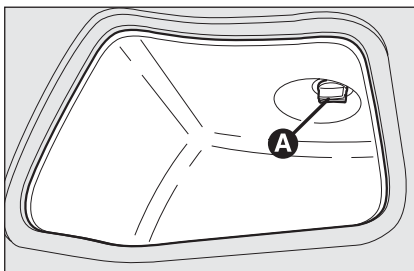

fig. 38
- ☐ remove the protection cover by operating device **A-fig. 38**;